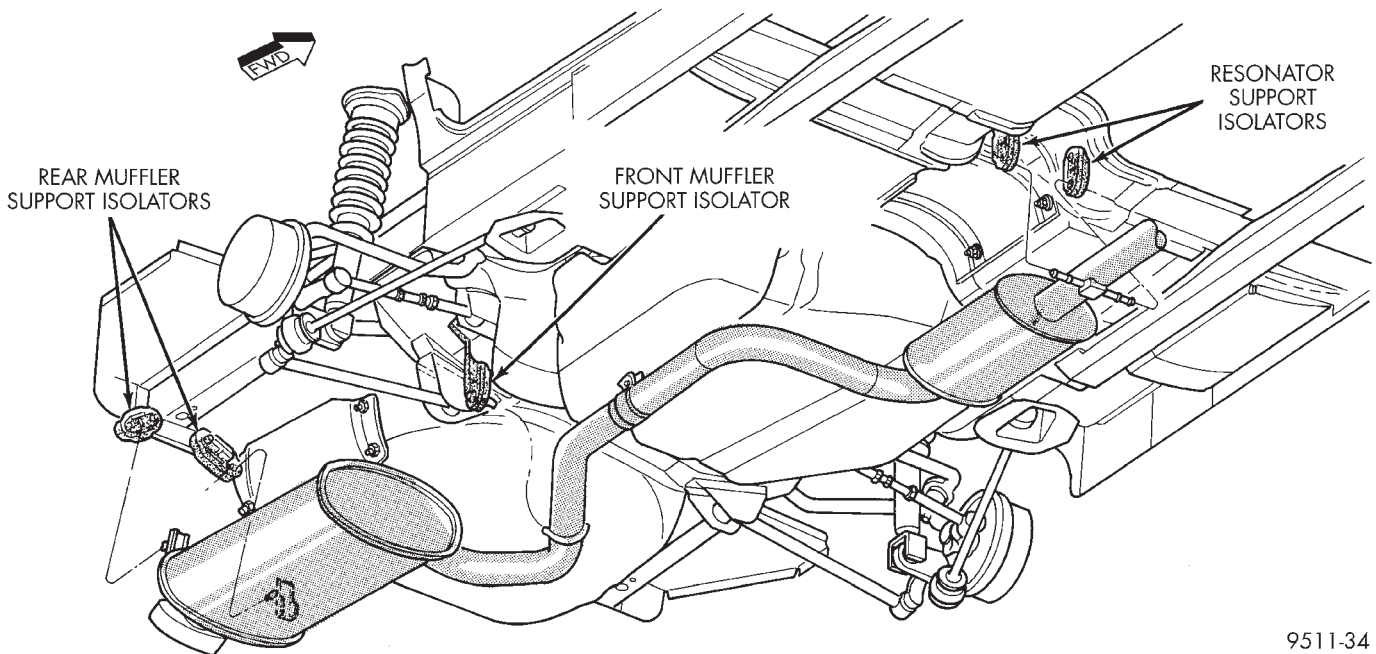

Fig. 14 Exhaust System Support/Isolator Locations
- Remove all exhaust system support/isolators from the vehicle's exhaust system (Fig. 14). Remove